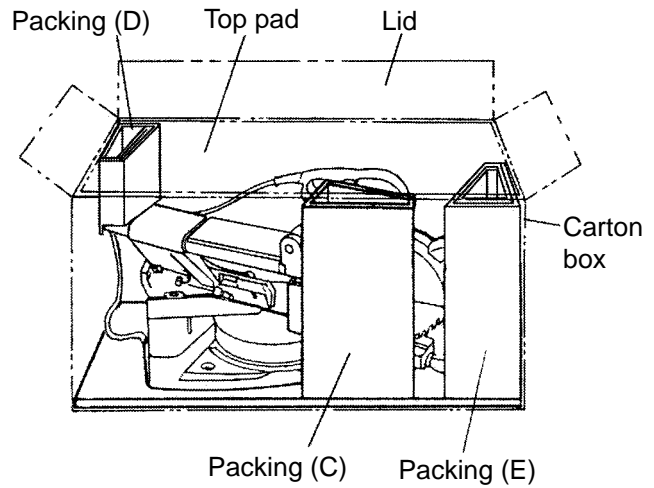

Fig. 58
(5) How to install the top pad
Put the top pad on packings (C), (D) and (E). Close the lids of the carton box and bind them together (Fig. 58).